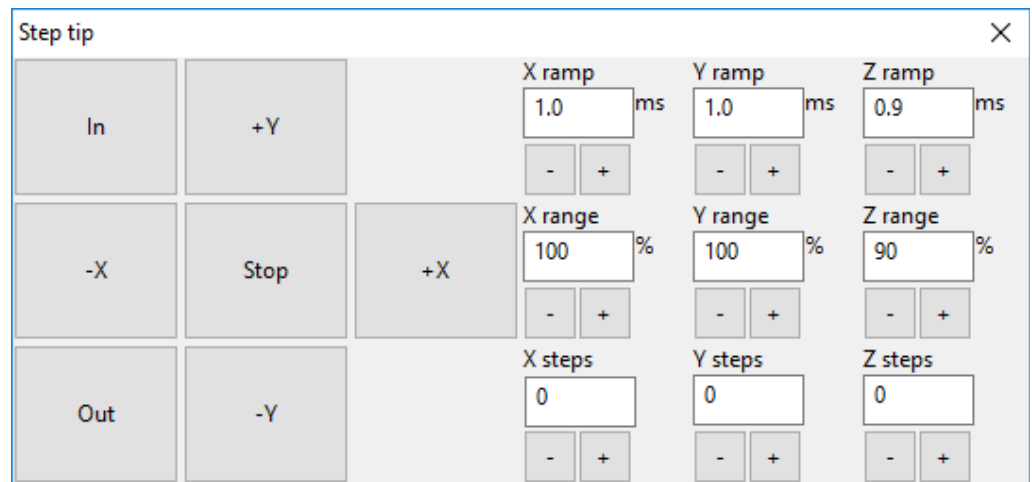

Figure 3.10 The Step Tip window
- **Step tip** opens up the Tip Step window, shown below in Figure 3.10. This allows for large-scale motion of the tip in X, Y, and Z. The tip should be disengaged at least 10 steps, and preferably more, before doing this.
The first stage of auto approach is to bring the tip close to the surface manually, using the stepper motors. The Step Tip window, shown in Figure 3.10, is opened by clicking the Step Tip Action Button. The speed of motion is controlled by the Ramp time, which determines the time to complete an entire sawtooth period. Typical ramp times are from 0.1-10 ms. Speed of motion is also controlled by the XYZ range settings. This sets the voltage applied to the piezo. There will be a minimum threshold voltage below which no slip-stick motion will occur. It is useful to determine this threshold in the coarse motion mode, so that appropriate voltages can be applied to the fields for the voltage used during Walk-In and Approach.